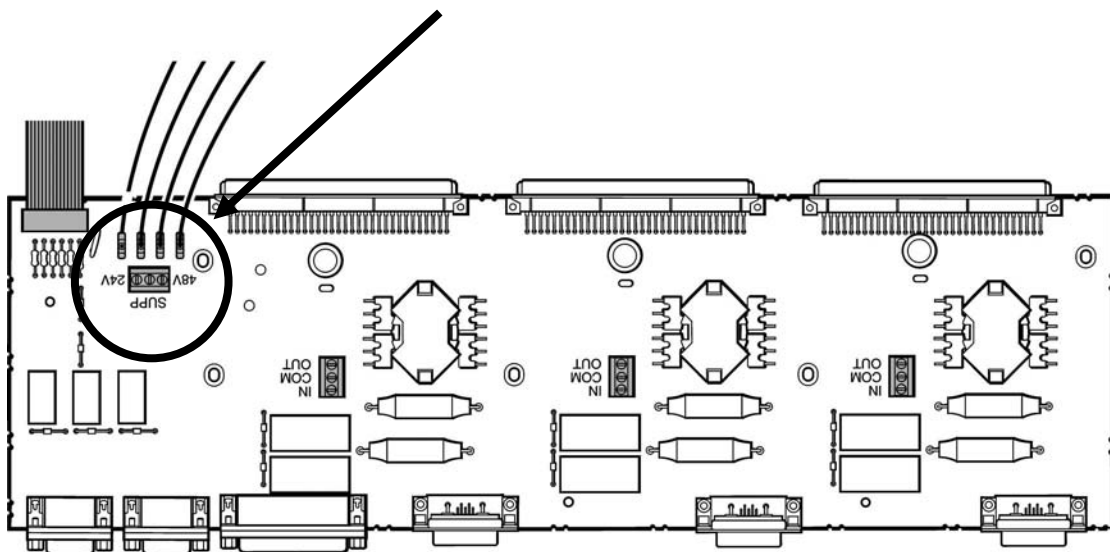

Figure 11 – Motor voltage configuration
3. Locate the motor voltage configuration as shown in figure 11.